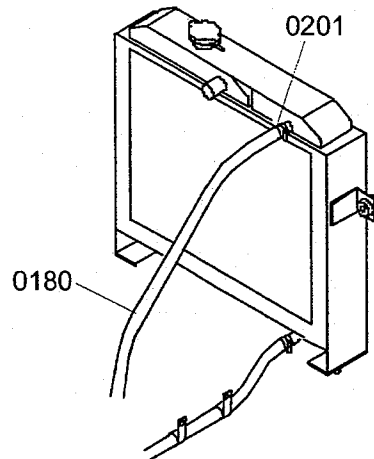

Fig27-00:
10. Fig27-00: Install the hose (0180), then tighten the hose clamp (0201).